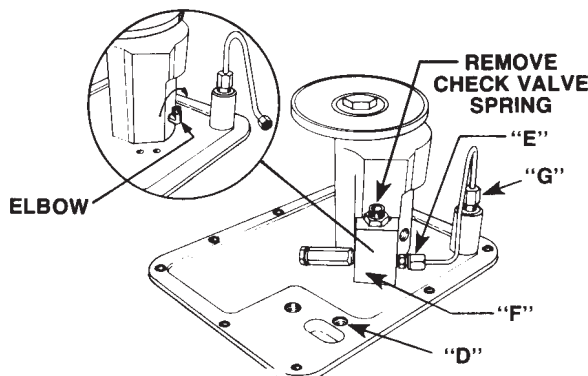

FIGURE 2
5. Remove the connector from the check valve to locate and remove the spring. See Figure 2.
8. Disconnect the small oil line (Figure 2, Item "E") at the check valve and loosen the other end of the oil line at the pressure regulator "G".
10. Assemble the elbow into the threaded hole from which pipe plug 'C' was removed. See Figure 2 inset for correct elbow position.
12. Insert the pipe nipple provided into the threaded hole (Figure 2, Item "D") located in the valve pad on the cover.